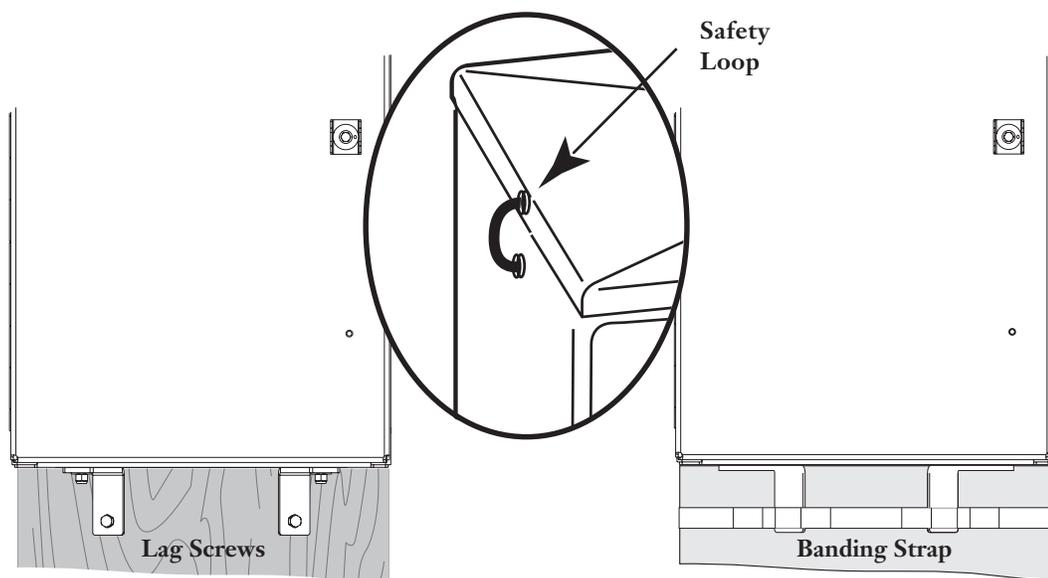

Figure 10 — Secure Angled Brackets to the Pole
- Step 4** Secure the bottom of the cabinet to the pole using the angled brackets at the bottom of the cabinet (Figure 10). Secure a safety harness to the safety loop and observe all standard practices to avoid personal injury or damage to the cabinet.
CAUTION: *To protect the installer from injury (fall from a pole) if the cabinet is pole-mounted, attach the free end of the safety harness to one of the cabinet's safety loops found on each side at the top of the cabinet (Figure 10). Only after completing this step should the installer move from the pole to a pole seat or balcony. The safety harness should remain attached to the safety loop on the cabinet during all work operations. Reverse the procedure before descending the pole.*